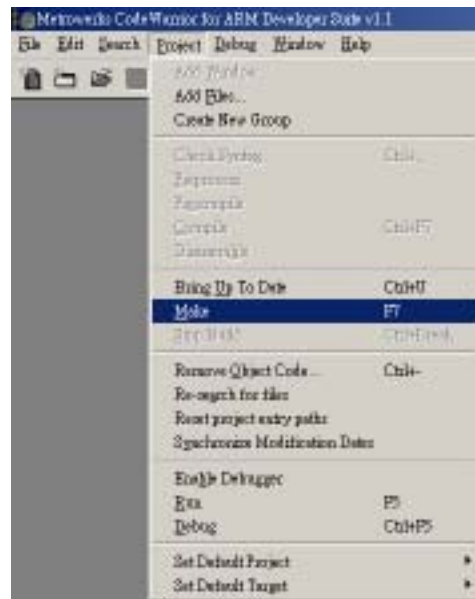
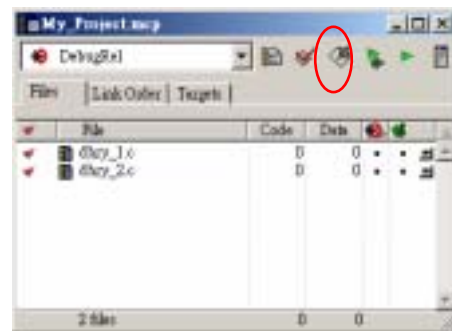

Figure 21. Make the project.
Figure 22. Make the project from the Project Window.
2. Select **Project Make** (or F7), as shown in Figure 21 (or the **Make** button from the Project Window, as shown in Figure 22). The CodeWarrior IDE builds the project by:
- Choice either *dhry_1.c* or *dhry_2.c* listed in the *Project Window* (Figure 21). Then right-click on in the *Project Window* and select *Disassemble* from the pop-up menu. The disassembled code is displayed in a *Disassembly window*.